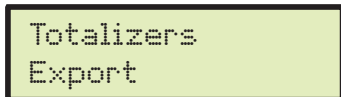

Fig. 70
- It is possible to save the totalizer reports on pendrive using the relevant function Export (Fig. 70).
- Select Export (Fig. 70) and press **OK**.